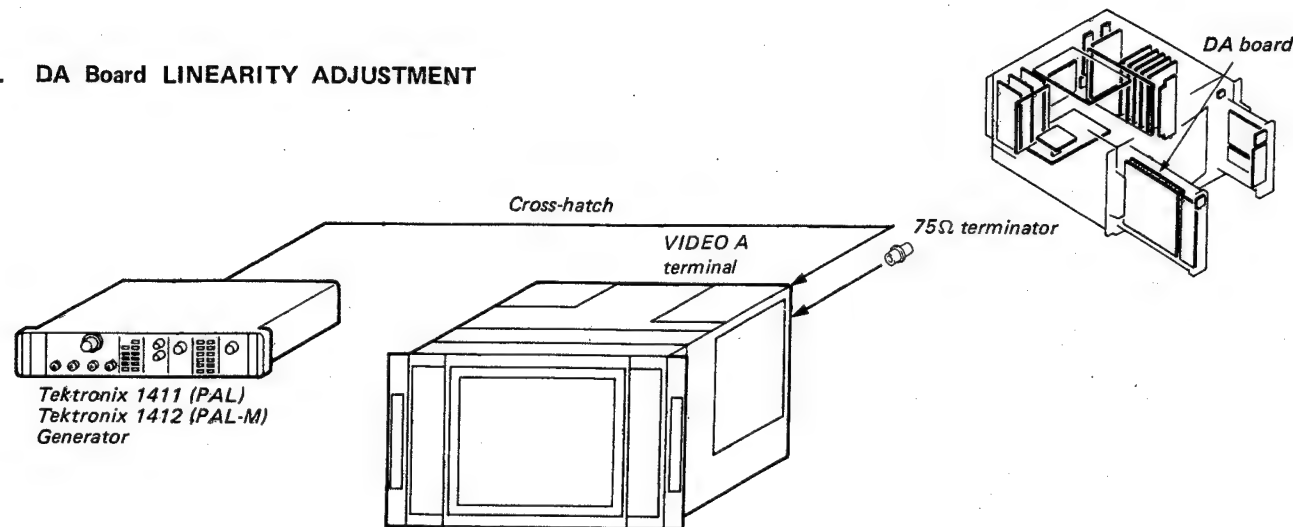

Fig. 20-1
3. Adjust RV18 on the DA board so that output waveform is 12.0Vp-p as shown in Fig. 20-1.
5. Adjust PARALLELOGRAM distortion by turning DA board RV28 (PARALLEL) as shown in Fig. 20-1.